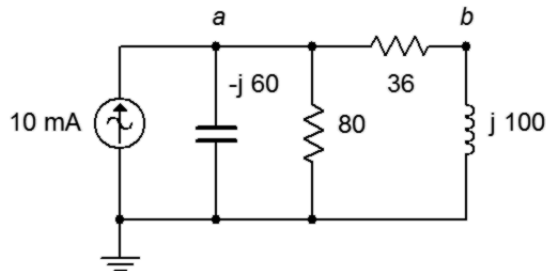

Figure 5.24
50. For the circuit of Figure 5.24, determine the Thévenin and Norton equivalents that drive the combo of $36 \text{ }\Omega + j100 \text{ }\Omega$. Does this combo achieve maximum load power? If not, what combo will achieve maximum power and what is the resulting power?
76. Using Norton's Theorem with the circuit of Figure 5.24, determine a new value of inductive reactance such that the inductor current is 1 mA in magnitude.